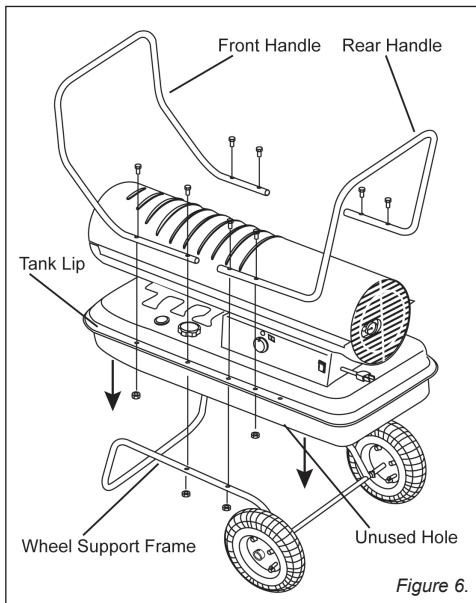

Figure 6.
6. Insert (2) short screws (30 mm) through the first hole from the front in the tank lip and tighten firmly. Make certain all (4) screws are secure.
7. Attach rear handle with (2) long screws (50 mm) and (2) nuts through the third hole from the rear of the heater on either side. (See Figure 6)